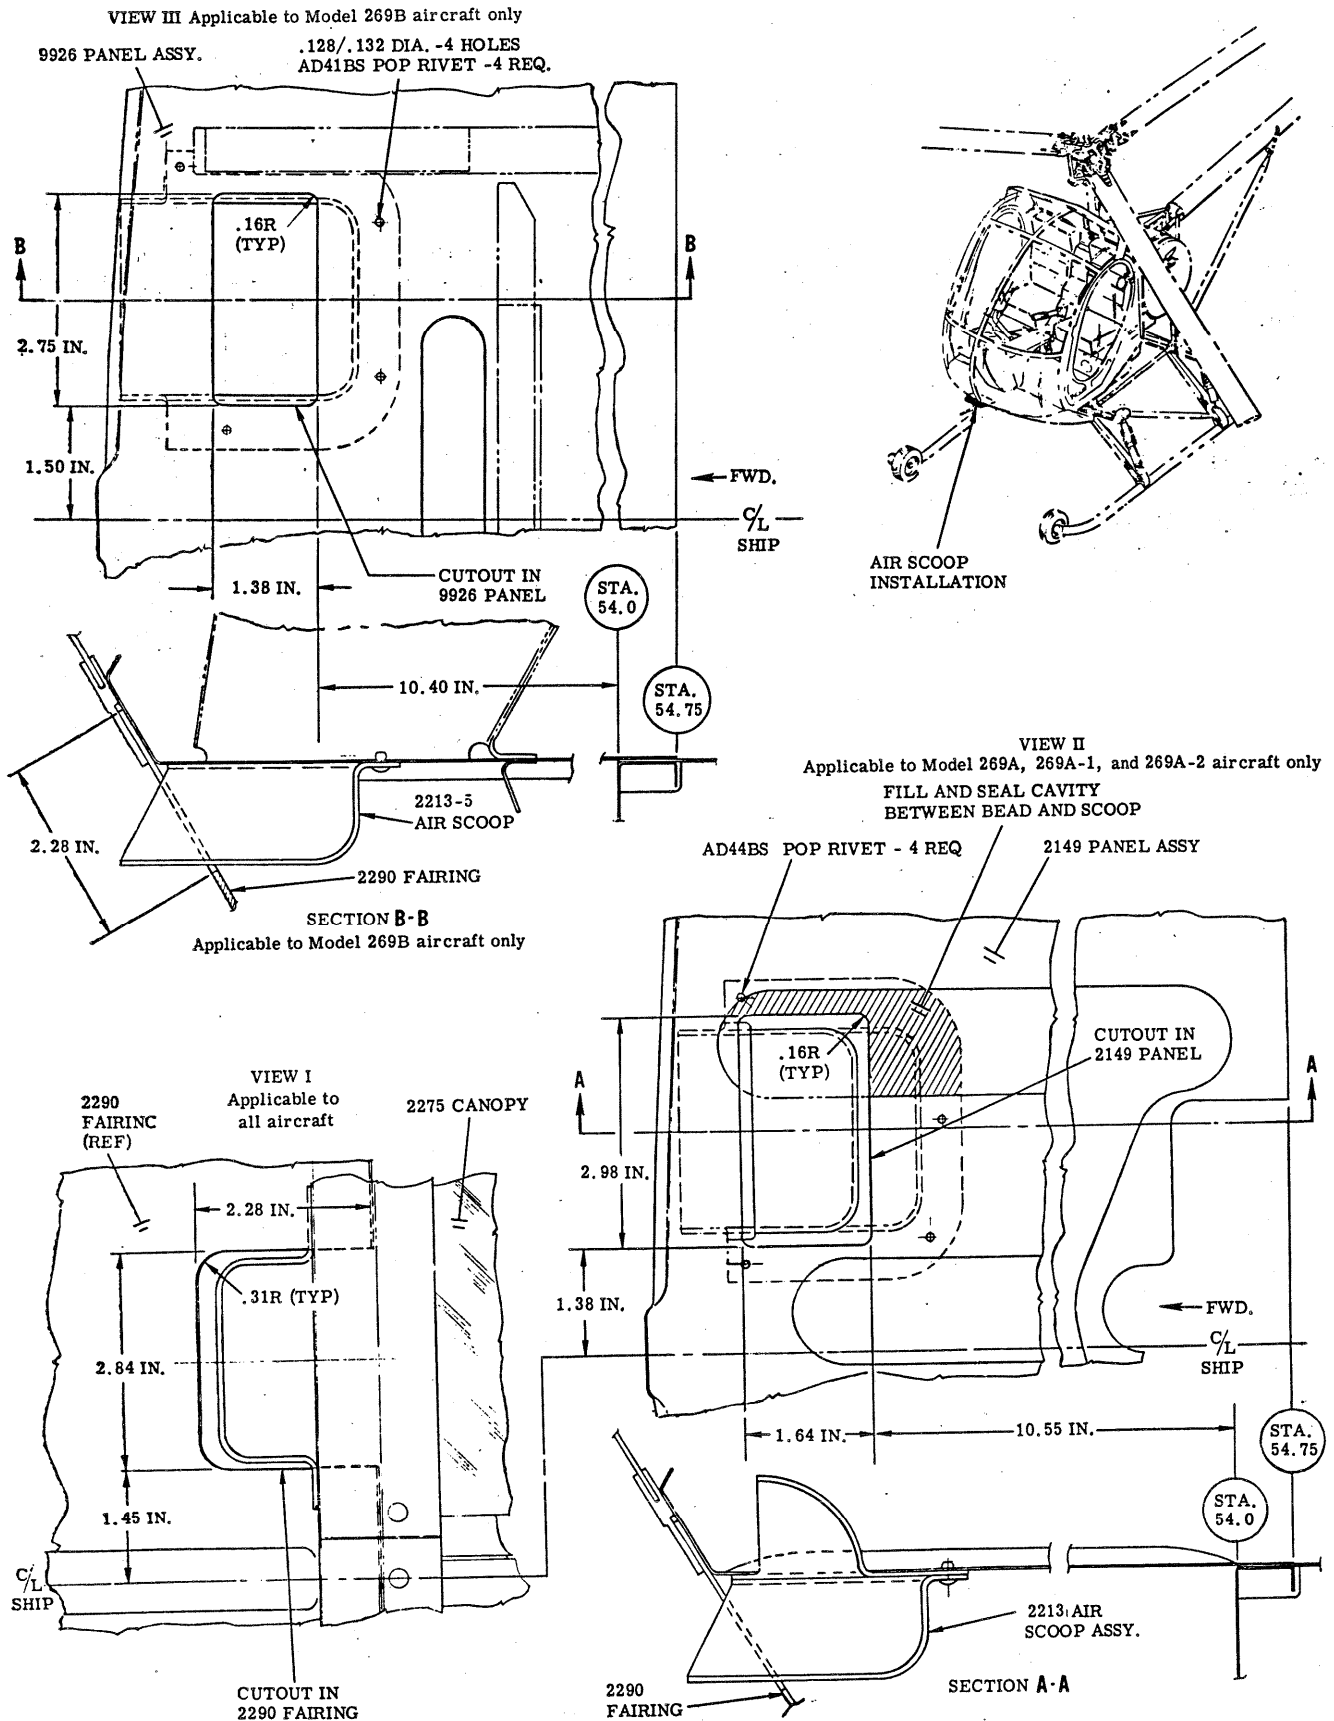

Figure 1. Cabin Sealing Installation
a. Remove 2290 lower forward fairing from aircraft; make cutout in fairing per dimensions, View I, Figure 1.
b. Remove cabin floor carpeting; make cutout in 2149 floor panel, per dimensions, View II, Section A-A, Figure 1.
a. Remove 2290 lower forward fairing from aircraft; make cutout in fairing, per dimensions, View I, Figure 1.
c. Make cutout in 9926 floor panel under instrument console, per dimensions, View III Section B-B, Figure 1.